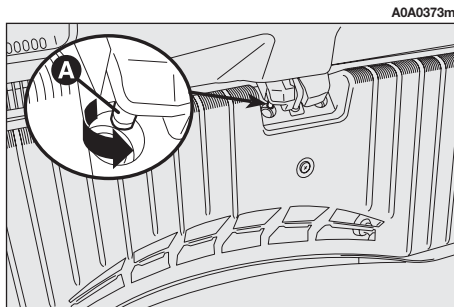

fig. 161
– operate the lever (**A-fig. 161**) as shown to achieve the tailgate mechanical release, operating from the inside of the luggage compartment;